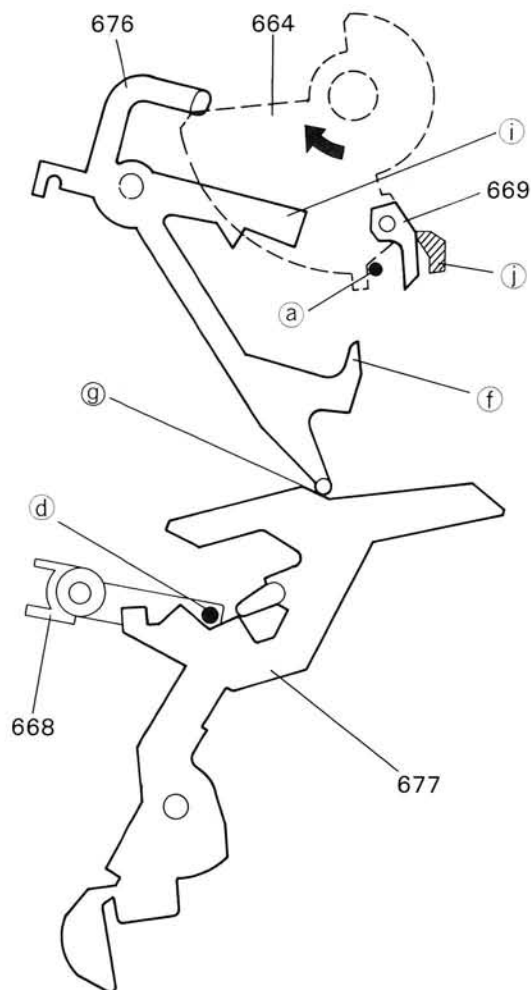

Fig. 2-1
The auto size cam (677) is fixed at the position shown in Fig. 2-1 by the boss (d) of the set lever (668).